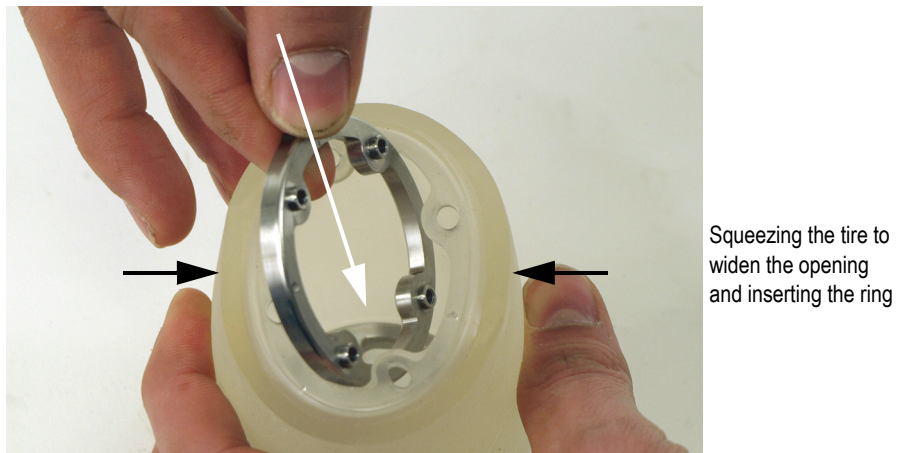

Figure 6-24 Inserting a ring in the tire
- a) Squeeze the tire on one side to widen the opening, making enough room to insert the stainless steel ring without wearing or tearing the tire lip, and then, while maintaining a large enough opening, insert the stainless steel ring (Figure 6-24 on page 103).